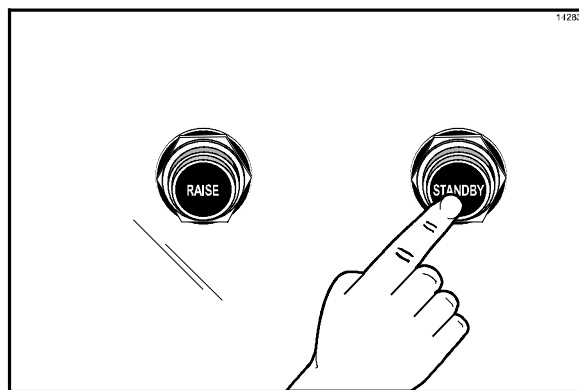

Figure 35
- After placing product in the prescribed method, press the STANDBY button to start the cook cycle. (See Figure 35.)